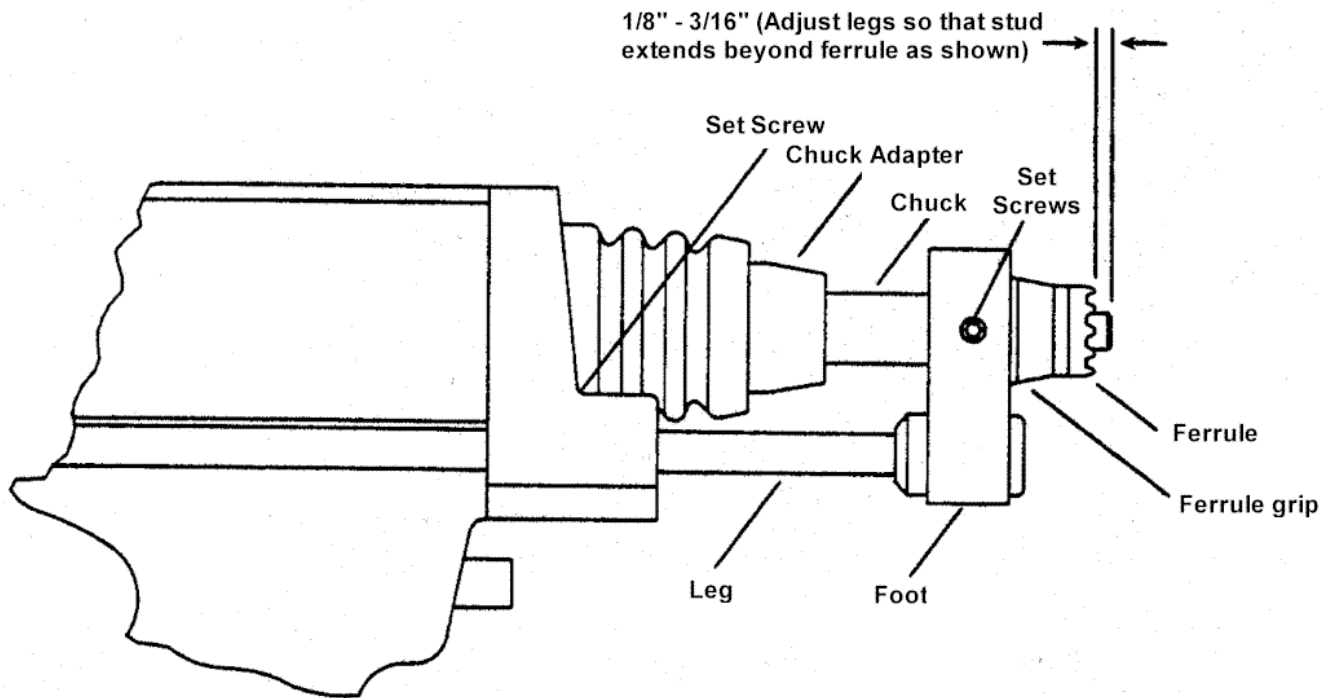

Figure 1
1. Insert chuck in the chuck adaptor. While holding the gun by the chuck adapter, lightly tap the chuck with a hammer until it is seated and held firmly in the taper of the chuck adapter (See Figure 1).
2. Insert Ferrule Grip into Foot and secure with set screws provided (See Figure 1).
1. Adjust the leg and foot assembly so that the stud extends from 1/8" to 3/16" beyond the end of the ferrule (See Figure 1).